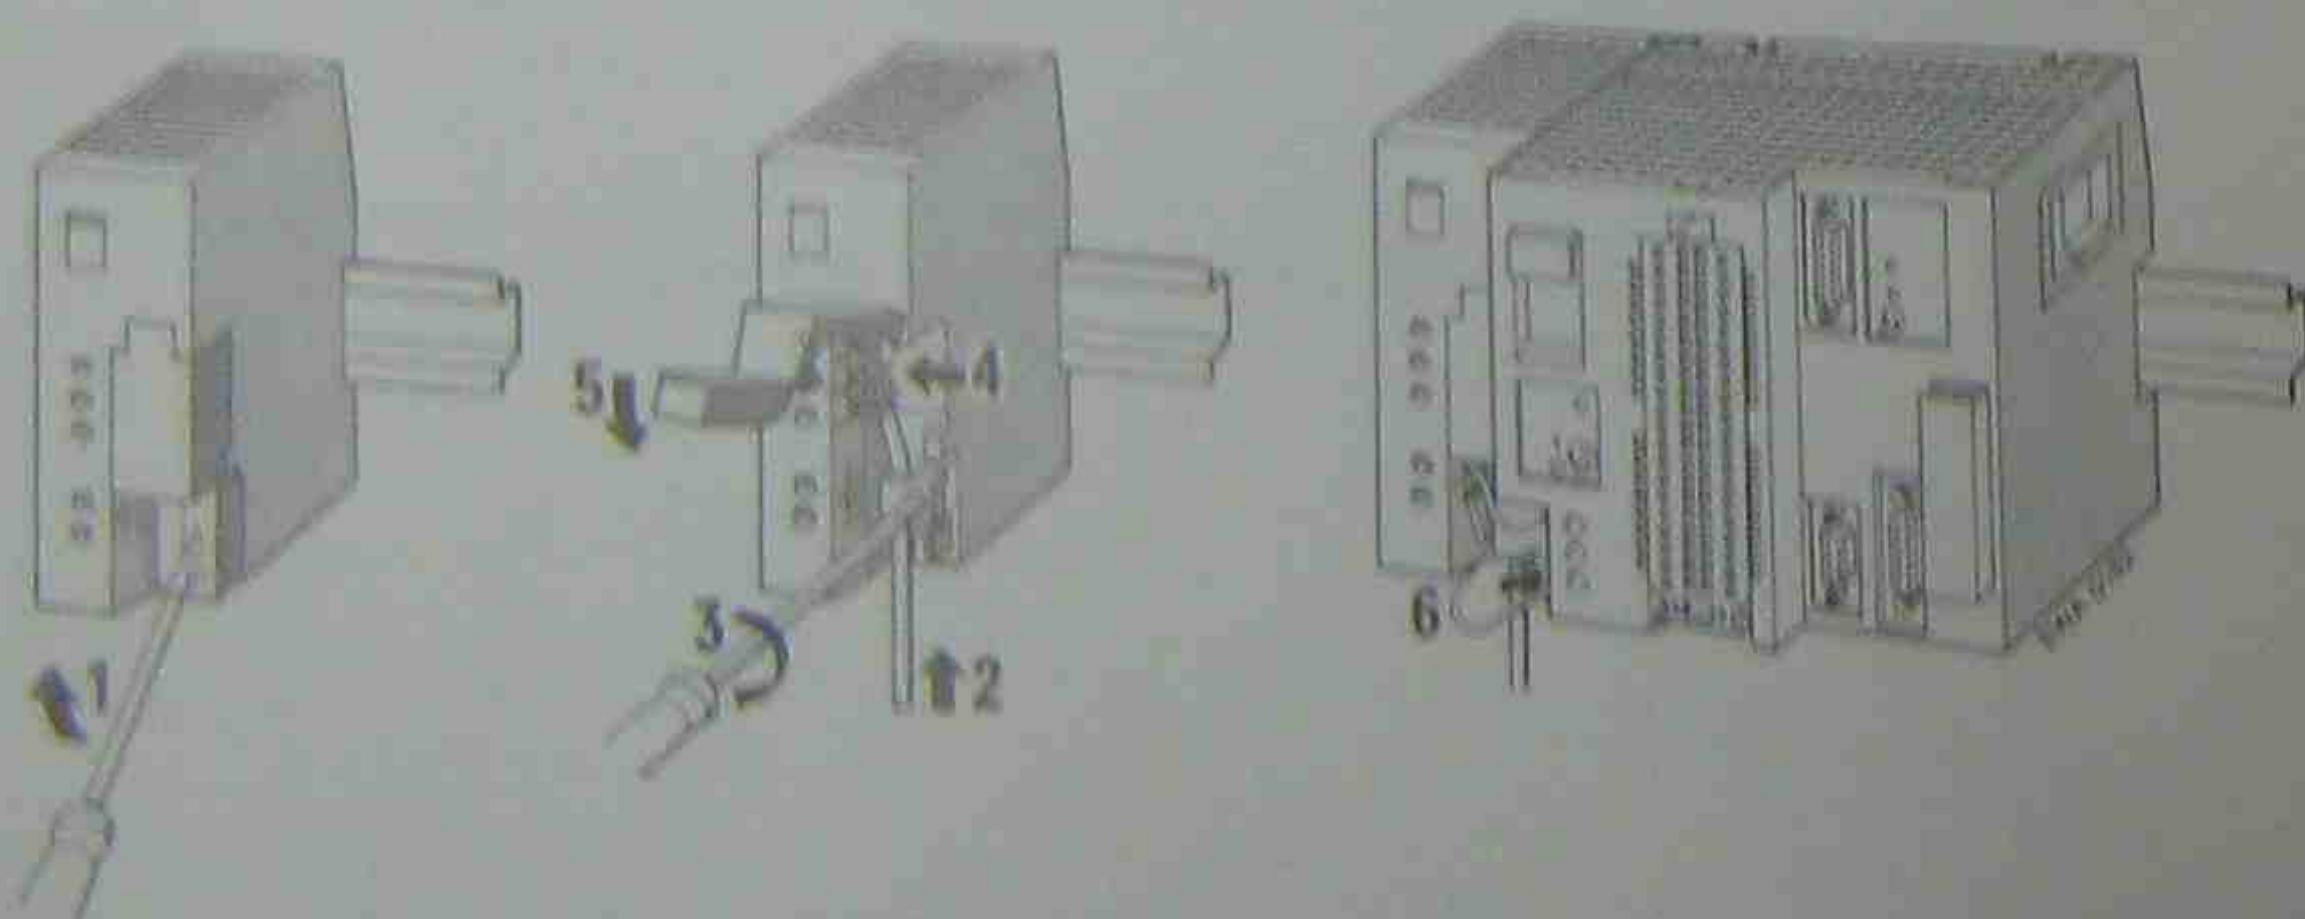

Figure 3-17. Connecting the S5-95U and the PS 931 Power Supply Module
- Connect the supply cable to the L1, N and \perp terminals (see Figure 3-17)
- Connect the L+ and M terminals of the PS 931 power supply module to the corresponding terminals of the PLC (see Figure 3-17)